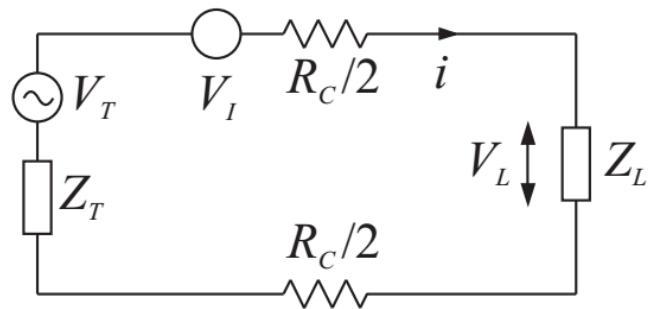

**Fig. 2.8** (a) A linear circuit and its (b) Thevenin, and (c) Norton equivalents.
**Interference.** Thevenin's theorem states that a network consisting of linear impedances and voltage sources can be replaced with an equivalent circuit having a voltage source and a series impedance, while Norton's theorem states that such a network can be replaced with an equivalent circuit consisting of a current source in parallel with an impedance (Fig. 2.8).